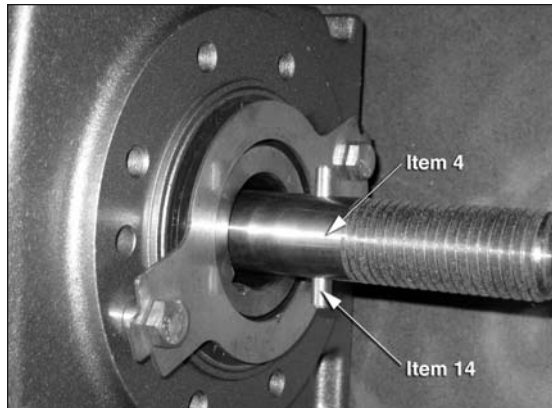

Figure 12
- Insert the pin (item 14) into the hole in the side of the threaded end of the shaft. Slide the nylon spacer (item 13) over the shaft and pin to hold the pin in this position. See Figures 12 and 13.